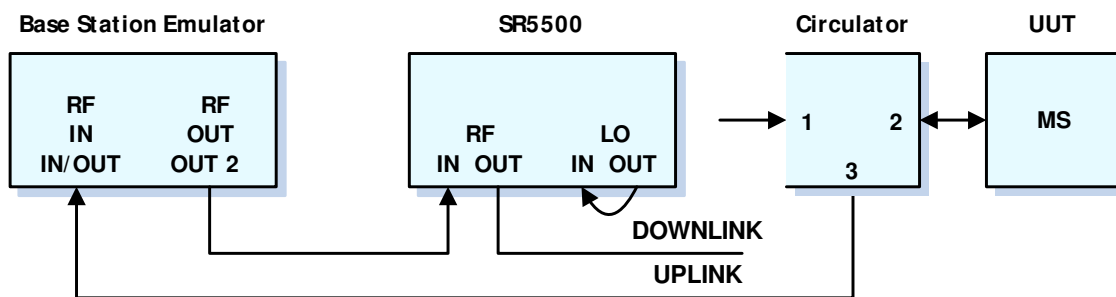

Figure 1-16: Mobile Test Setup
A Base Station Emulator, circulator, and a DUT (GSM Mobile) are used for this procedure. Figure 1-16 shows the setup for the Mobile Test.
5. After completing the interconnections outlined in Figure 1-16, power-on all instruments in the test setup.